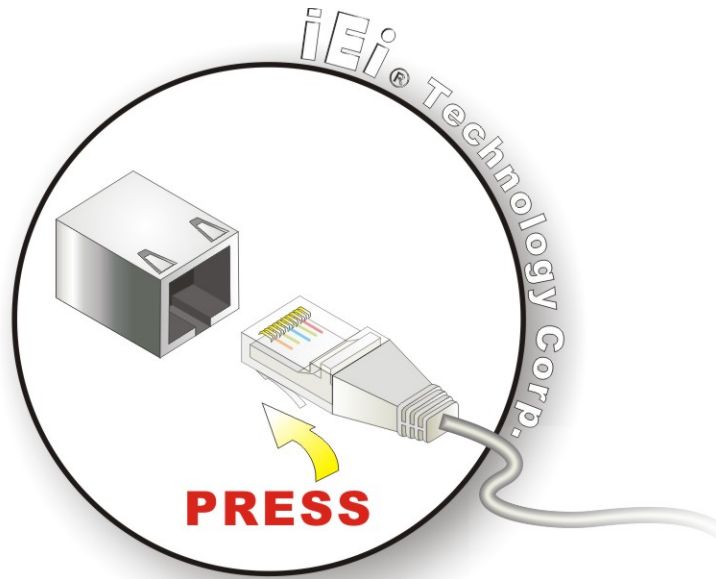

Figure 5-18: LAN Connection
Step 2: **Align the connectors.** Align the RJ-45 connector on the LAN cable with one of the RJ-45 connectors on the PICOe-945GSE. See **Figure 5-18**.